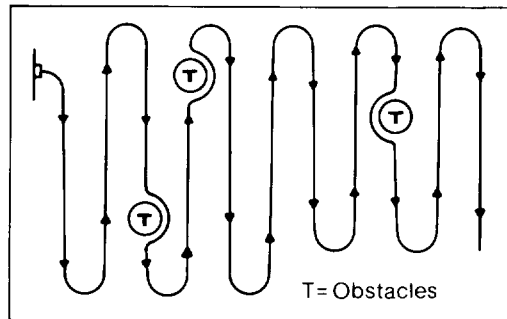

Figure 4
1. Begin mowing near the electrical outlet and work outward (Fig. 4). Mow back and forth.
**IMPORTANT:** By following the suggested mowing pattern (Fig. 4), the extension cord will not sustain unnecessary wear. Do not allow extension